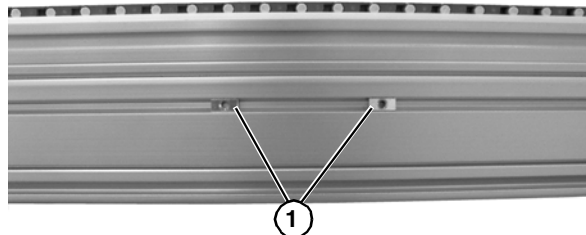

Figure 4
2. Install T-bars (**Figure 4, item 1**) into T-slots of conveyor.